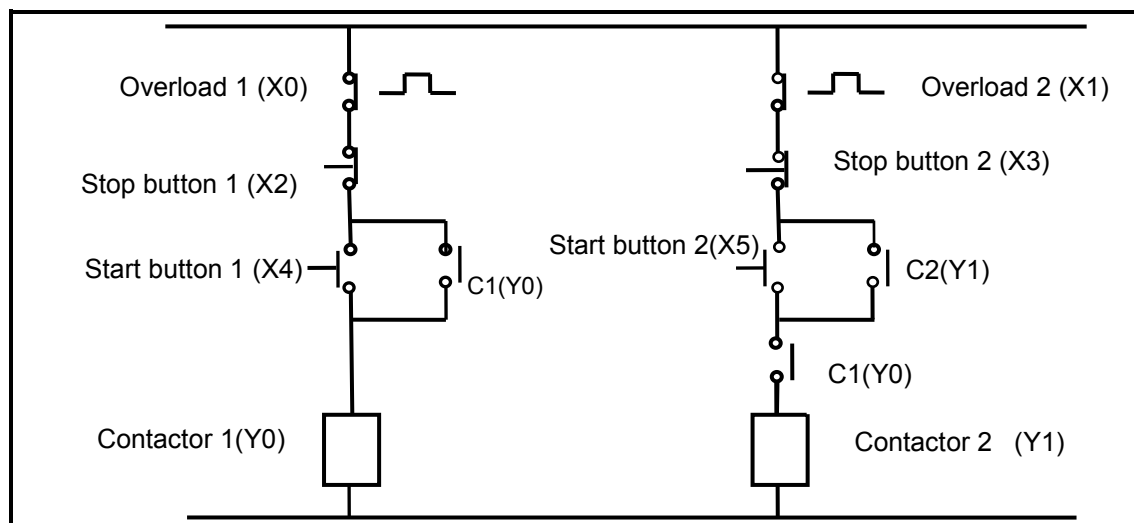

FIGURE 6.2: SEQUENCE CONTROL CIRCUIT
6.2 FIGURE 6.2 represents a sequence control diagram.
6.2.1 Draw and label the ladder logic diagram of the control circuit using the labels in FIGURE 6.2. (6)